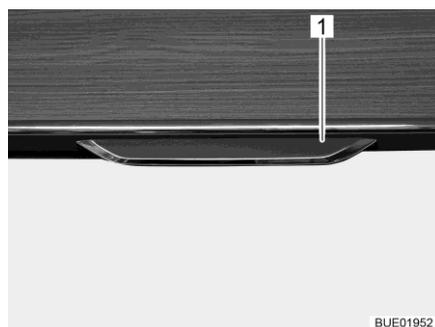
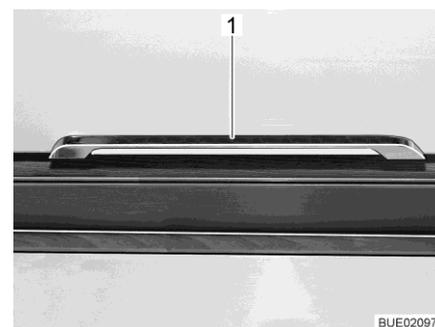

Fig. 66 Furniture flap with release handle
Fig. 67 Release handle (Ixeo T)
- Pull release handle (Fig. 66,1 and Fig. 67,1) outwards and downwards.